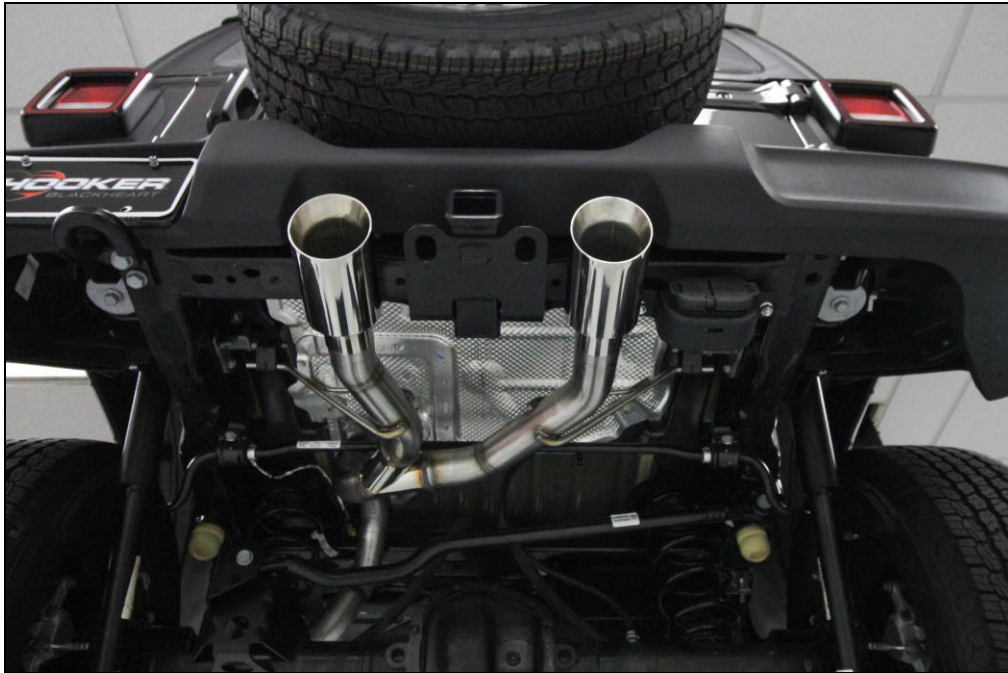

Figure 2
13. Install the tips onto the tailpipes and tighten the clamps with the bolts at the top of the tube. Tighten the clamp only enough to hold the tip in place and still be adjusted (**Figure 2**).